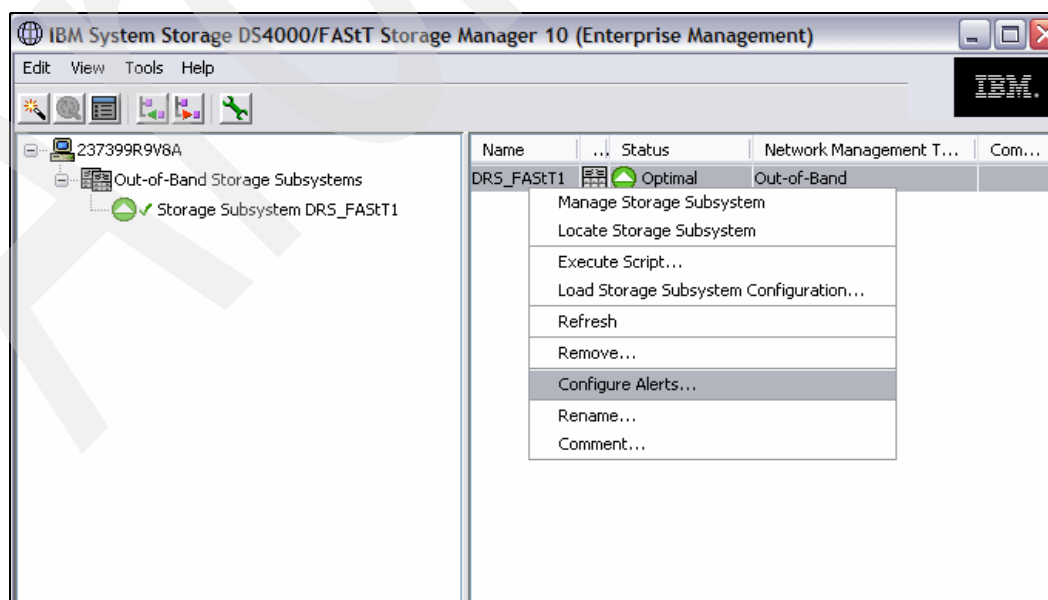

Figure 9-39 Enterprise Management window
- ▶ In the Enterprise Management window, right-click the Storage Subsystem and select **Configure Alerts®**, as shown in Figure 9-39.